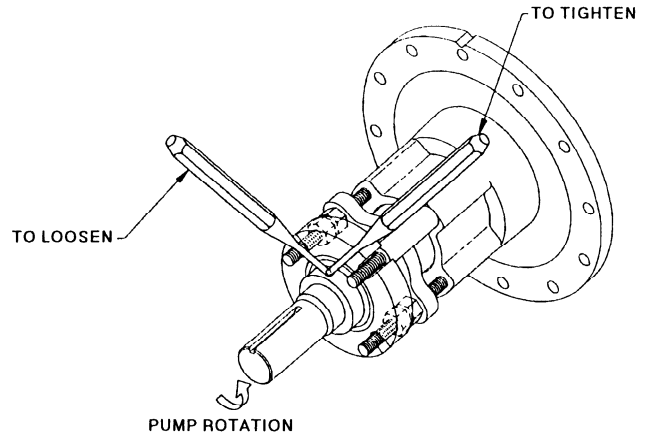

Figure 4 - Shaft Support Bearing
3. Using a punch tool and hammer, tap the bearing lock collar in the opposite direction of pump rotation (see Figure 4).
4. Once the lock collar is loosened, the bearing housing (106), and bearing & collar assembly (106B) can be pulled from the shaft. Use care not to drop and damage the individual parts.
5. If necessary, arbor press the bearing (106B) into the bearing housing (106) until it is flush with, or slightly recessed in the housing.
8. Lock the collar to the shaft by tapping it in the direction of pump rotation with a punch tool and hammer ( Figure 4).
4. If necessary, arbor press the bearing (106B) into the bearing housing (106) until it is flush with, or slightly recessed in the housing.
7. Lock the collar to the shaft by tapping it in the direction of pump rotation with a punch tool and hammer ( Figure 4).